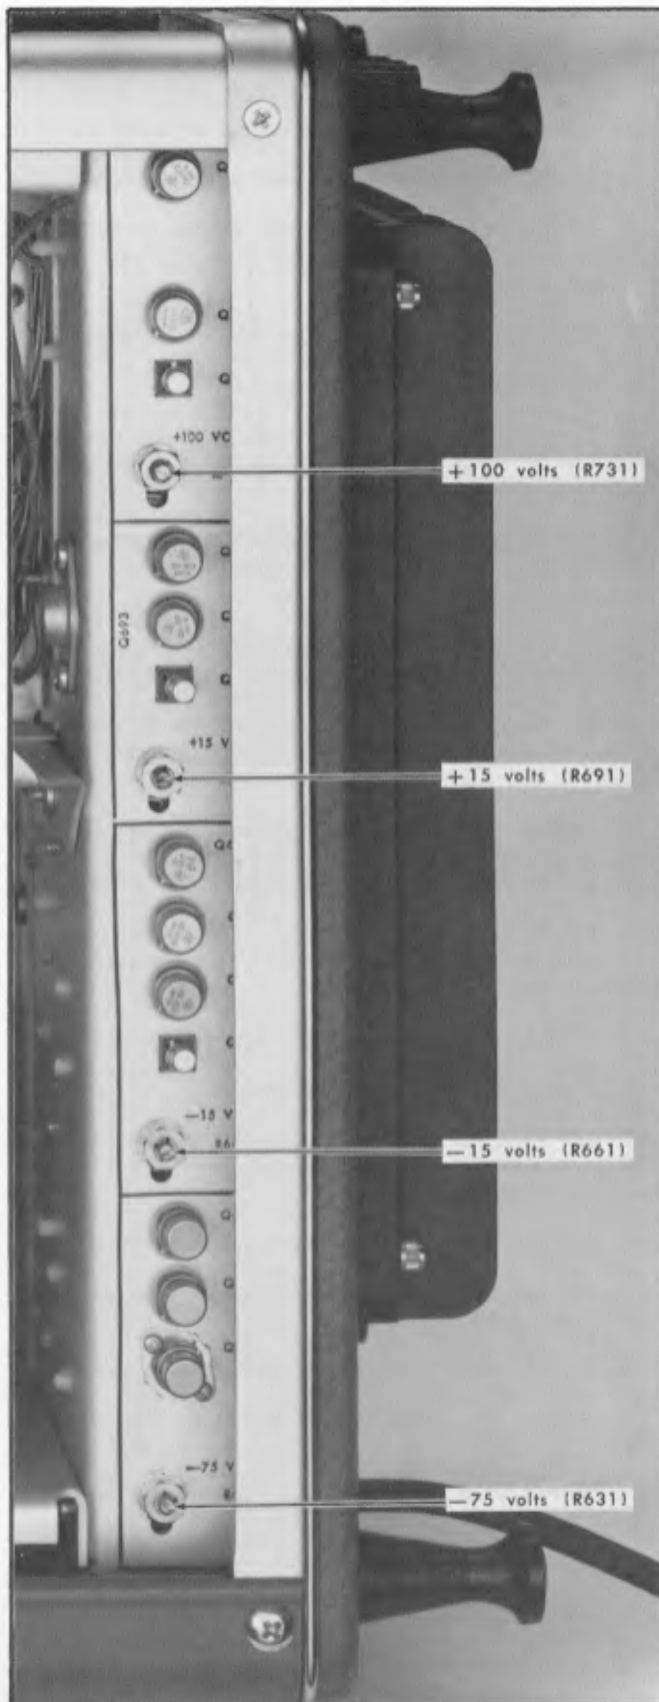

Fig. 6-4. Location of -75 Volts adjustment R631, -15 Volts adjustment R661, +15 Volts adjustment R691, and +100 Volts adjustment R731.
g. ADJUST— —75 Volts adjustment, R631 (see Fig. 6-4) until there is no deflection of the test oscilloscope trace as the source function switch on the calibration fixture is switched between the DC error and gnd positions.
①
e. ADJUST— -15 Volts adjustment, R661 (see Fig. 6-4) until there is no deflection of the test oscilloscope trace as the source function switch on the calibration fixture is switched between the DC error and gnd positions.
e. ADJUST— +15 Volts adjustment, R691 (see Fig. 6-4) until there is no deflection of the test oscilloscope trace as the source function switch on the calibration fixture is switched between the DC error and gnd positions.
e. ADJUST—+100 Volts adjustment, R731 (see Fig. 6-4) until there is no deflection of the test oscilloscope trace as the source function switch on the calibration fixture is switched between the DC error and gnd positions.